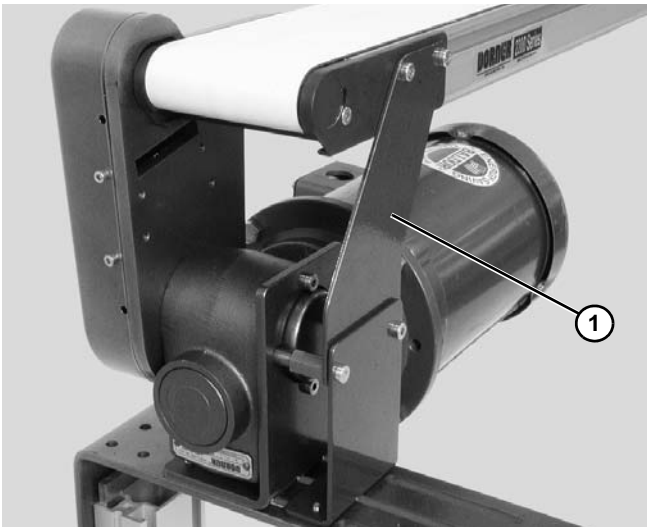

Figure 68
- If equipped with a heavy load drive package, install drive support bracket (**Figure 68, item 1**).